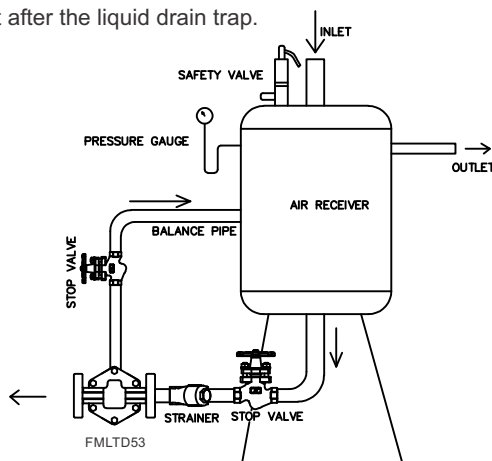

Figure 4: FMLDT53 installation with balance line arrangement
5. The trapped air should be removed by connecting a balancing pipe of 3/8" tapping that is provided on the cover of the Liquid Drain Trap to the air receiver as shown in figure 4.